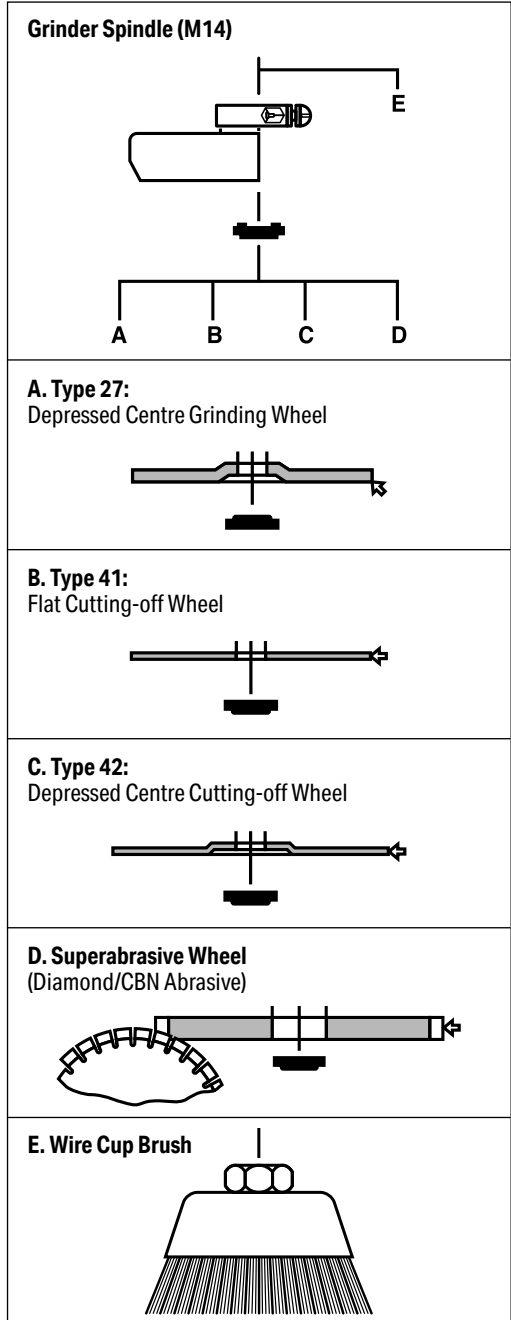
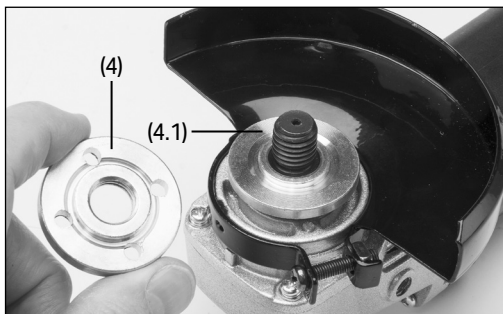

Fig. 3
Fig. 5
6.3 Fitting/Replacing Accessories (sold separately) (Fig.3 – Fig.5)
1. Press and hold the spindle lock button (3)
2. Loosen the locking flange (4) anti-clockwise using the pin spanner (8) supplied.
3. Only remove the locking flange (4).
5. When fitting an accessory refer to **Fig.3** for the correct orientation for the locking flange.
6. Securely tighten the locking flange clockwise while holding down the spindle lock (3) using the pin spanner.
**WARNING! NEVER press the spindle lock button (3) while the spindle is rotating.**